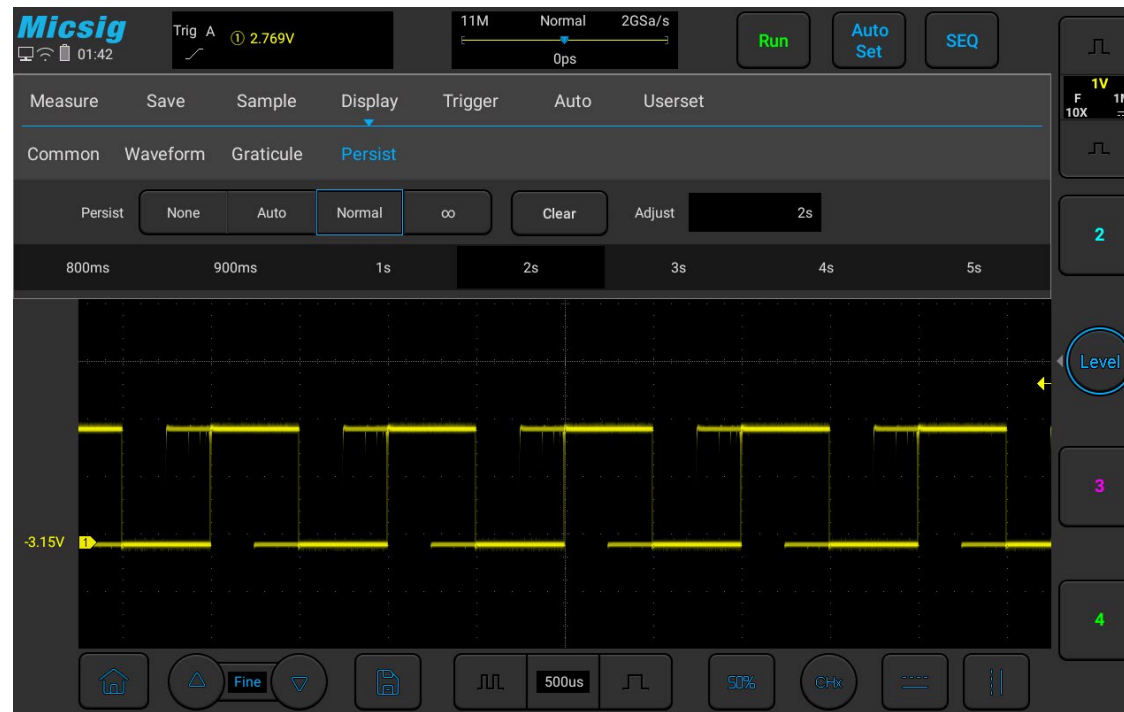

Figure 9-4 Persist time adjust
- **Normal:** Normal - set the persistence time — After selecting the variable persistence, tap the box on the right of “Adjust” to pop up the persistence time selection box (Figure 9-4) and set the persistence time. It can be set between 10ms and 10s.